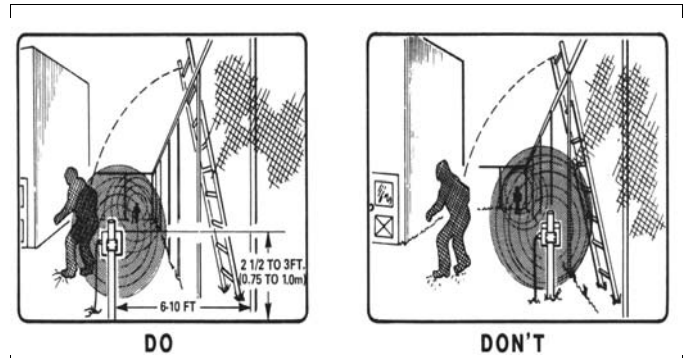

Figure 7: DO's and DON'Ts for fenced-in areas
- DO use bistatic microwave sensors in areas that are fenced-in (see Figure 7).